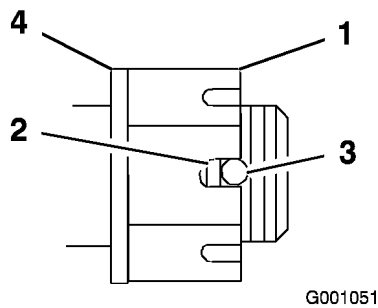

Figure 41
4. Torque the slotted nut to 125 ft-lb (170 N•m) (Figure 41).
- Check the distance from bottom of slot in nut to inside edge of hole. Two threads or less should be showing (Figure 41).
- Torque the slotted nut to 125 ft-lb. (170 N·m) (Figure 41).
- Tighten the nut until the next set of slots line up with the hole in the shaft (Figure 41).